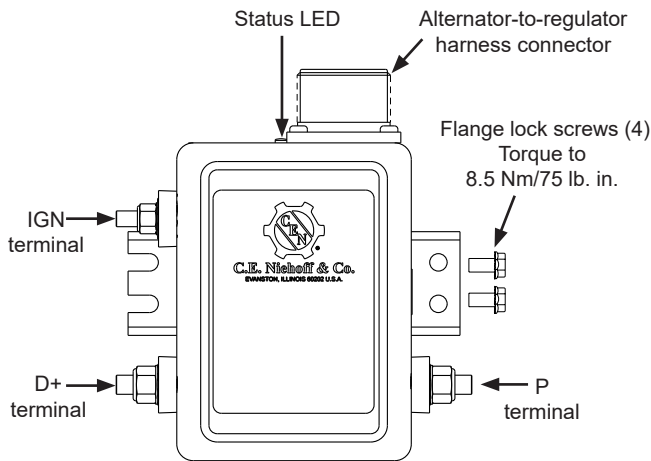

Figure 8: Conventional Regulator Connections
3. Plug alternator-to-regulator harness into receptacle on regulator. See Figures 8 and 9 for receptacle location.
- Regulator **IGN terminal** (required) must receive voltage from vehicle DC ignition source, multiplex, or F wire if retrofit from competitor's system (see page 2) in order to energize regulator. Torque to 4.5 Nm/40 lb. in. See Figures 8 and 9.
- Regulator **D+ terminal** (if required) provides DC system battery voltage to vehicle (5A maximum) for charge indicator lamp, relay, or multiplex while alternator is producing output. Torque terminal hardware to 4.5 Nm/40 lb. in. See Figures 8 and 9.
- Regulator **P/AC terminal** (if required) taps AC voltage from alternator, typically half the charge voltage (3A maximum). P/AC terminal provides alternator RPM frequency at 10:1 ratio for use with tachometer. Torque terminal hardware to 4.5 Nm/40 lb. in. See Figures 8 and 9.